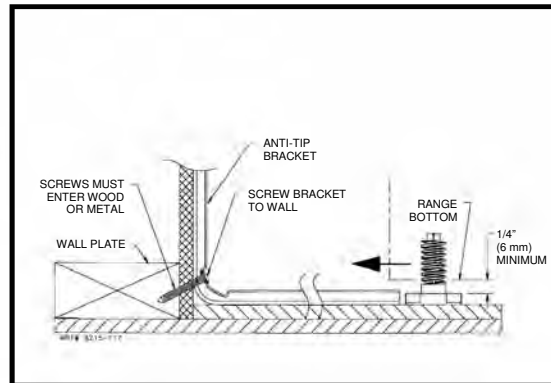

FIGURE 4
1/8" (3 mm) pilot hole in the center of each hole as shown in figure 4. (A nail or awl may be used if a drill is not available). Secure the ANTI-TIP bracket to the wall with the two screws provided as shown in figure 4. Proceed to STEP 3.
- B. Align the range to its designated location and slide it back into position. Note: A minimum clearance of 1/4" (6 mm) is required between the range and the leveling foot that will engage the ANTI-TIP bracket, see figure 4.